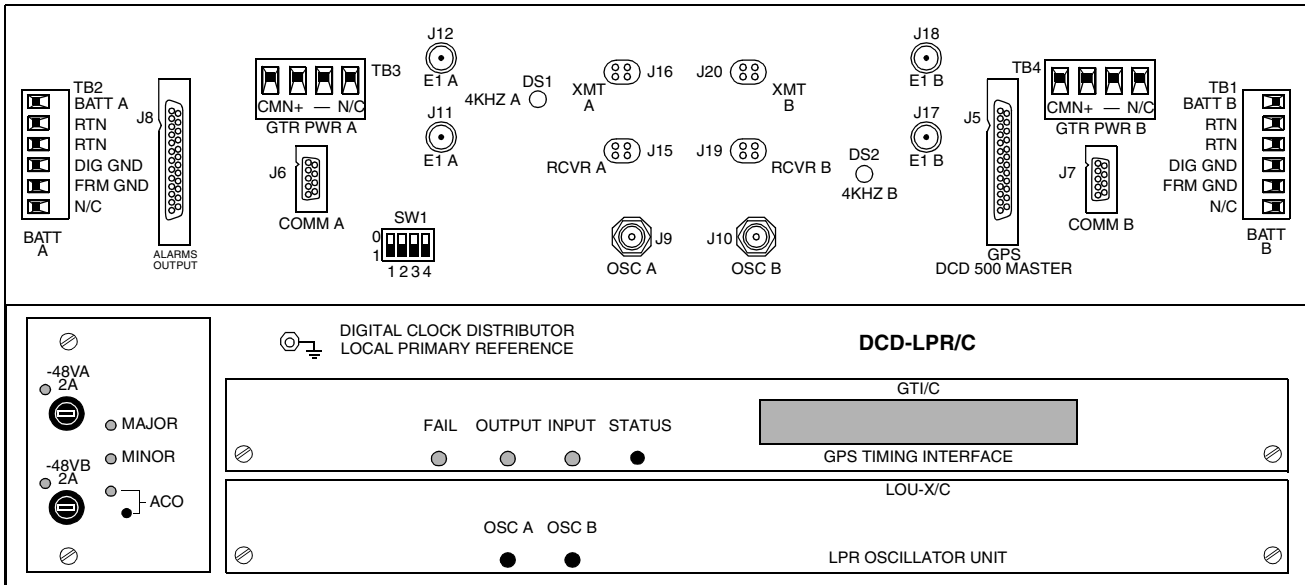
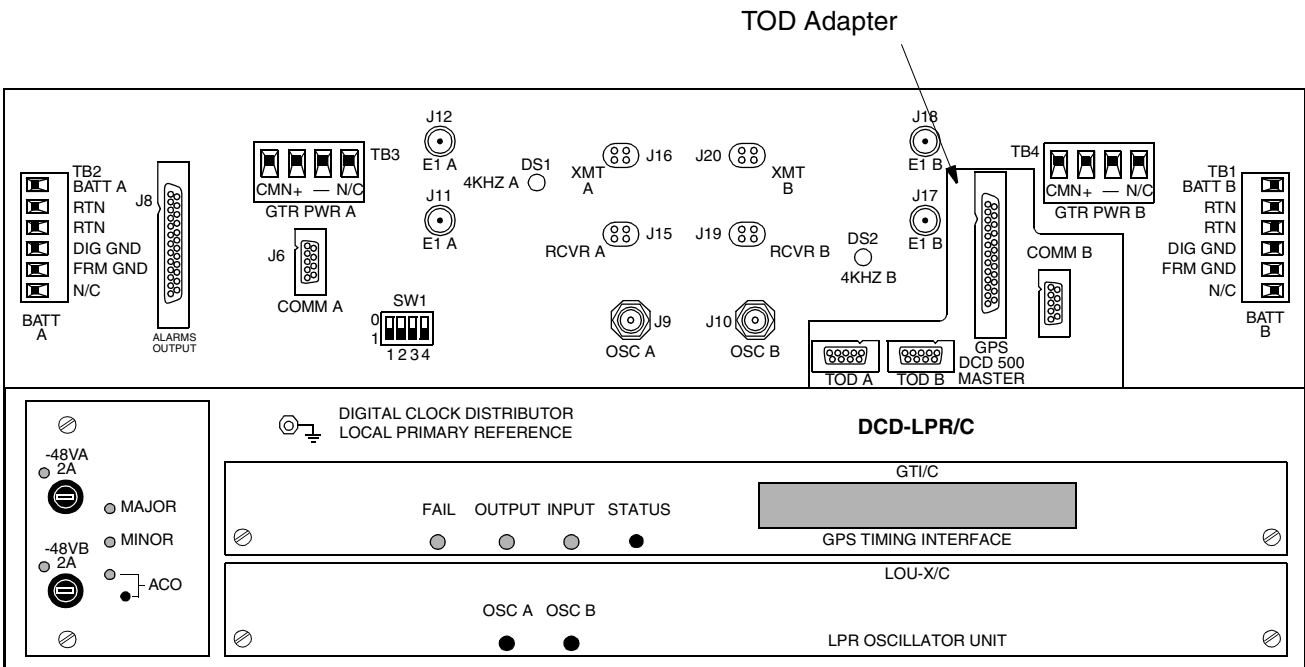

Figure 1. DCD-LPR/C Shelf without TOD
Figure 2. DCD-LPR/C Shelf with TOD
2.01 The DCD-LPR/C provides Primary Reference Source (PRS)/Stratum-1 quality reference signals when used with the DCD-521/C Systems. Figure 1 shows the LPR/C without Time-of-Day (TOD); Figure 2 shows the LPR/C with TOD.